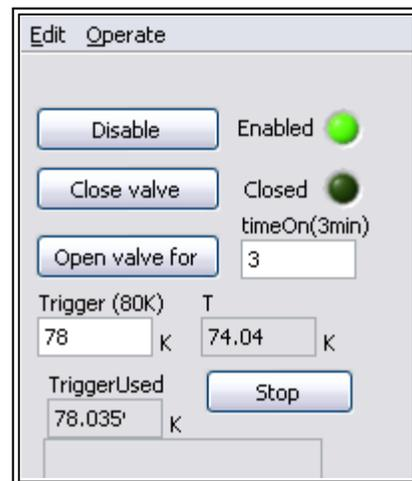

Figure 1: Panel for control for the liquid nitrogen auto filler.
- LiquidNitrogenValve, <http://soaric3.ctio.noao.edu/LiquidNitrogenValve.htm>, controls the valve. See Figure 1.